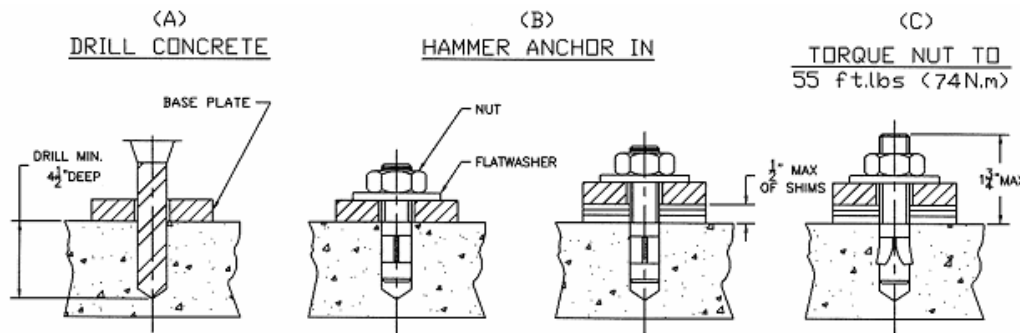

Figure 6. Anchoring
2. Using a rotary hammer drill and a 1/2" concrete bit, drill through the floor at each of the six (6) anchor bolt locations on each of the base frames. Make sure that the 1/2" concrete drill bit is in good condition. Refer to **Figure 6**.